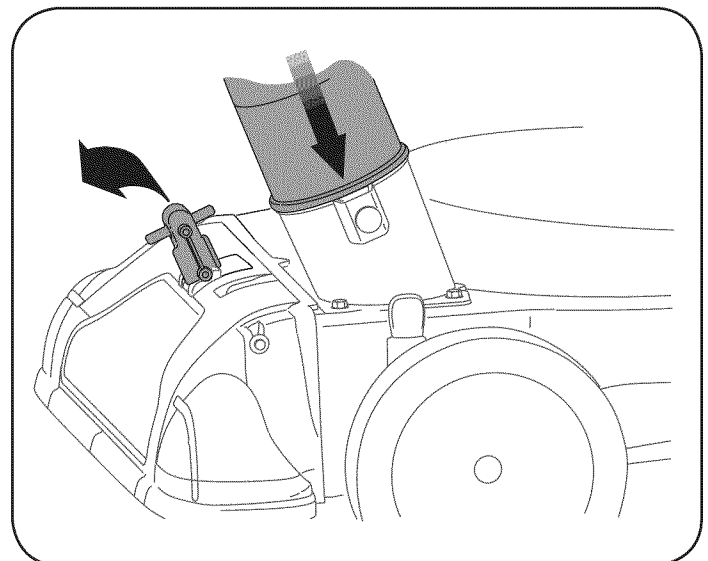

Figure 16
1. Place nozzle/hose vac lever in the bottom position on the nozzle to redirect vacuum to the hose assembly. See Figure 16.